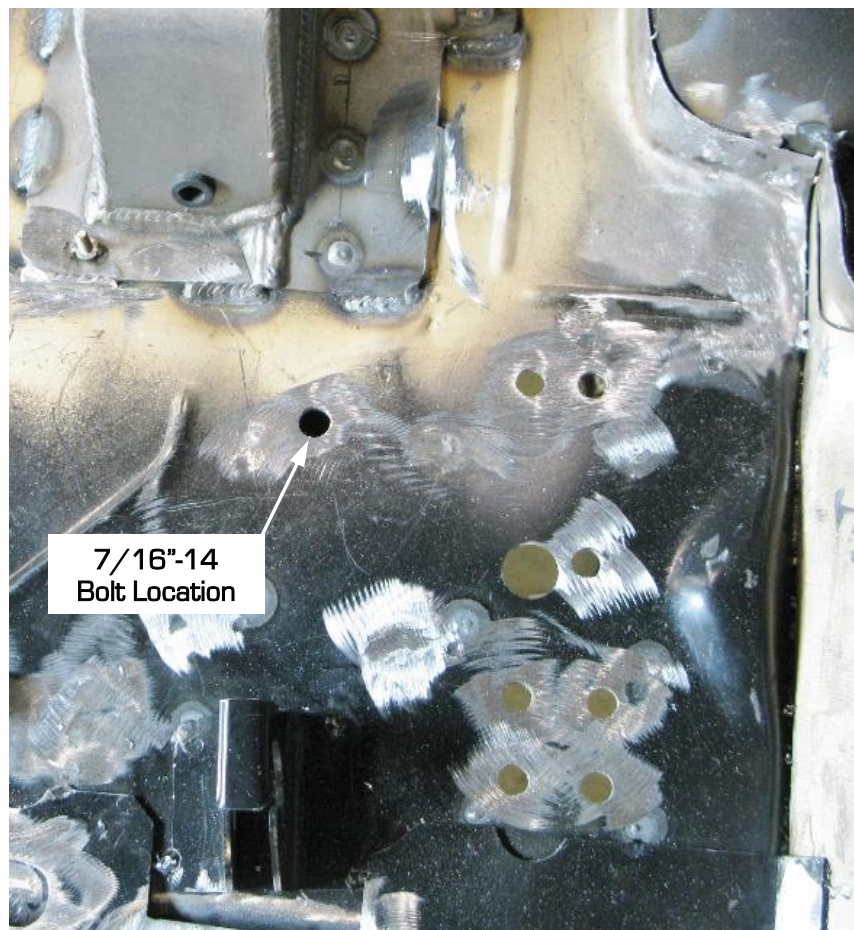

Figure 7 – Drill Remaining Holes
19. Remove the DSE pocket assemblies and floor pan doublers. Drill the 6 holes for the provided 3/8"-16 bolts. There is also one hole location that needs to be drilled for the provided 7/16"-14 bolt (Figure 7).